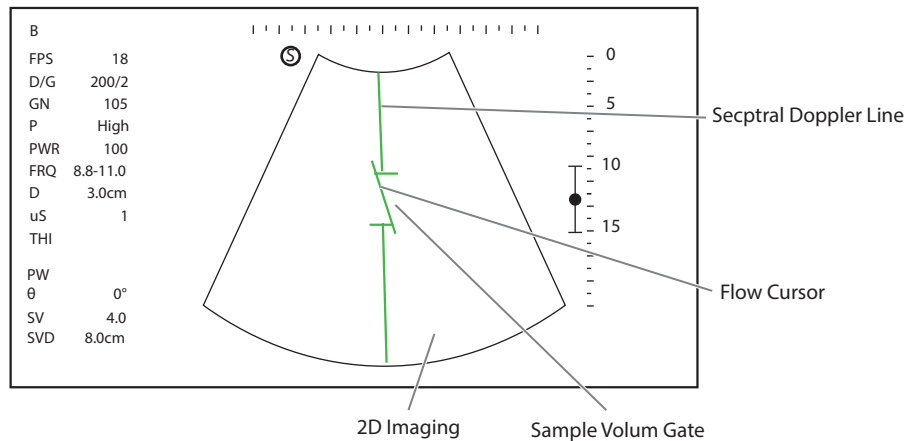

Figure 6-16 Pre-activated B+PW Mode 1 Imaging Screen
2. Press the **PW** key on the control panel to enter the pre-activated B+PW mode 1. The basic screen is shown in Figure 6-16.